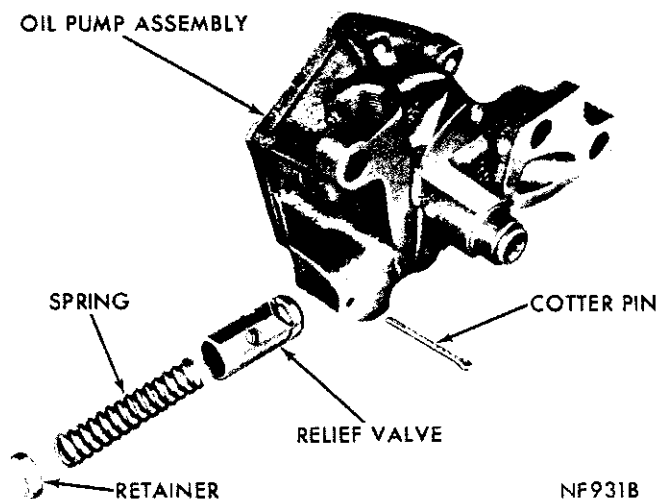
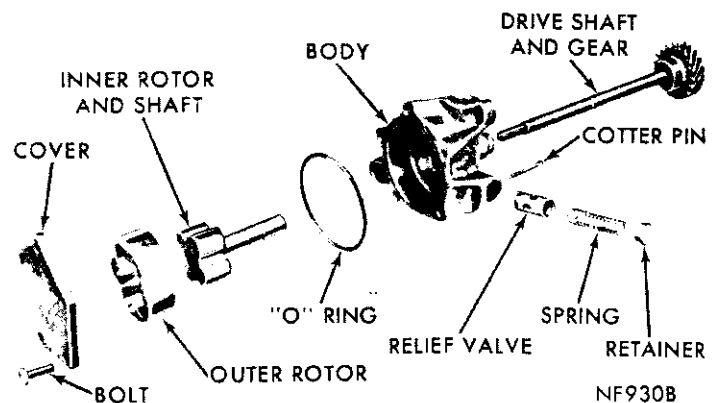

Fig. 49—Relief Valve Spring and Retainer Removed
Fig. 50—Oil Pump Assembly (Disassembled View)
- (1) To remove the relief valve, proceed as follows:
- (b) Clamp screw into a vise and while supporting oil pump, remove cap by tapping pump body using a soft hammer. Discard cap and remove spring and relief valve. (Fig. 49).
- (2) Remove oil pump cover bolts and lockwashers, and lift off cover.
- (3) Discard oil seal ring.
- (4) Remove pump rotor and shaft and remove outer rotor.
- (5) Wash all parts in a suitable solvent and inspect carefully for damage or wear. (Fig. 50).